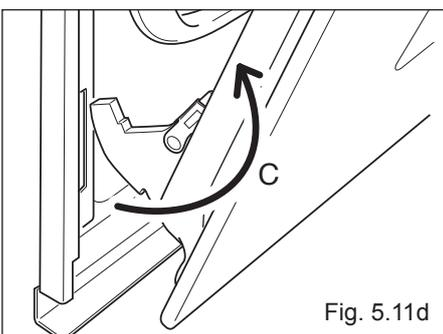

Fig. 5.11d
- Withdraw the hinge hooks from their location following arrow “C” (fig. 5.11d).